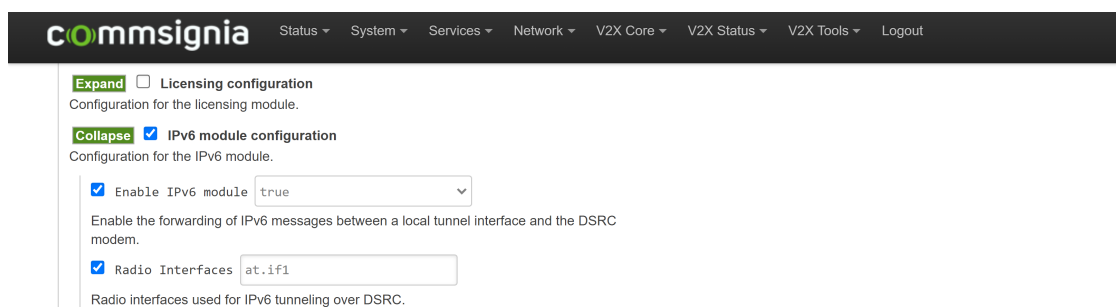

Figure 46. IPv6 module configuration
- Under the **V2X Core** → **Core stack** menu item expand and check the box next to **IPv6 module configuration**, as shown in Figure 46.